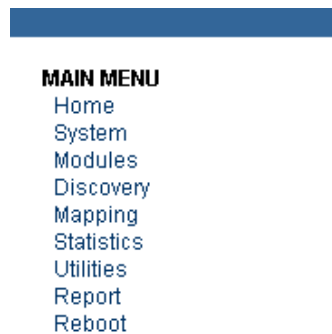

Figure 30: Main Menu option bar
- The Main Menu option bar is located at the left-side of the home page. Use this option bar to access the configuration menus. Figure 30 is an example of this portion of the home page screen.